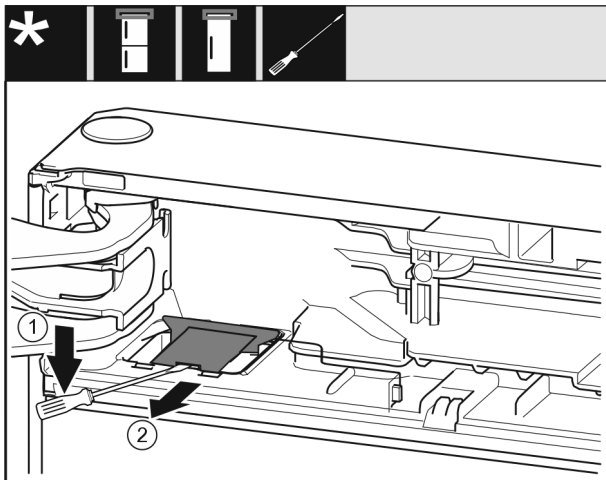

Fig. 7
- ▶ Unlatch the cover with a slotted screwdriver and lift it up. *Fig. 7 (1)*
- ▶ Take out the cover. *Fig. 7 (2)*